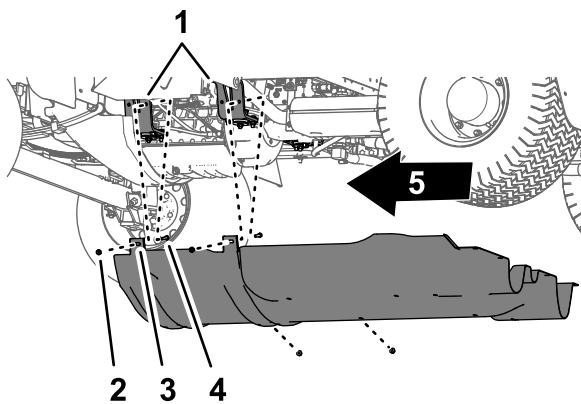

Figure 68
2. Remove the 4 flange locknuts (5/16 inch) from the bolts and carriage bolt that secure the mounting tabs of the undercarriage shroud to the engine-mount brackets of the machine (Figure 68).
4. Remove the undercarriage shroud from the machine (Figure 67 and Figure 68).
1. Align the undercarriage shroud to the bottom chassis of the machine; refer to Figure 68 in Removing the Undercarriage Shroud (page 53).
2. Move the mounting tabs of the undercarriage shroud over the bolts and carriage bolt at the engine-mount brackets of the machine; refer to Figure 68 in Removing the Undercarriage Shroud (page 53).
3. Assemble the undercarriage shroud to the engine-mount brackets and bolts (Figure 68) with the 4 flange locknuts (5/16 inch) that you removed in step 2 of Removing the Undercarriage Shroud (page 53).